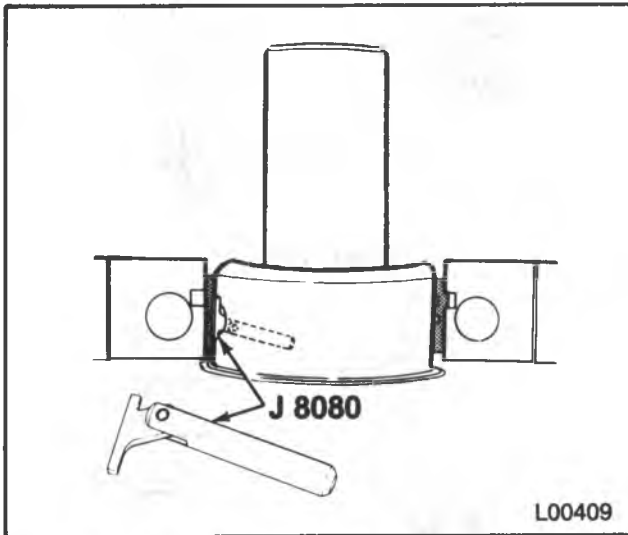

Figure 29 — Replacing the Main Bearings
Remove or Disconnect (Figure 29)
- Insert J 8080 into the crankshaft oil hole (figure 29).
- Insert tool J 8080 into a crankshaft main bearing oil hole (figure 29).